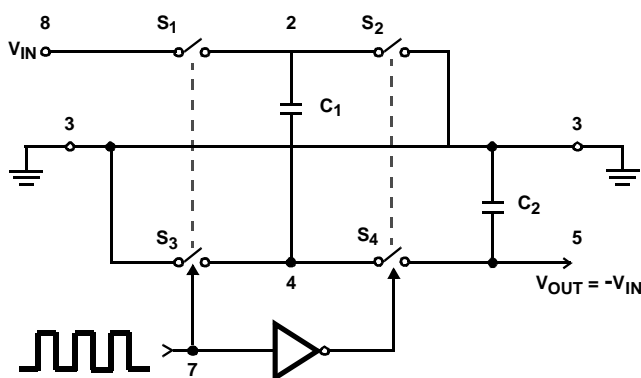
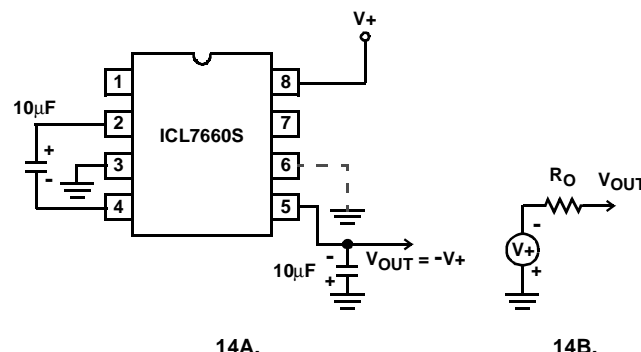
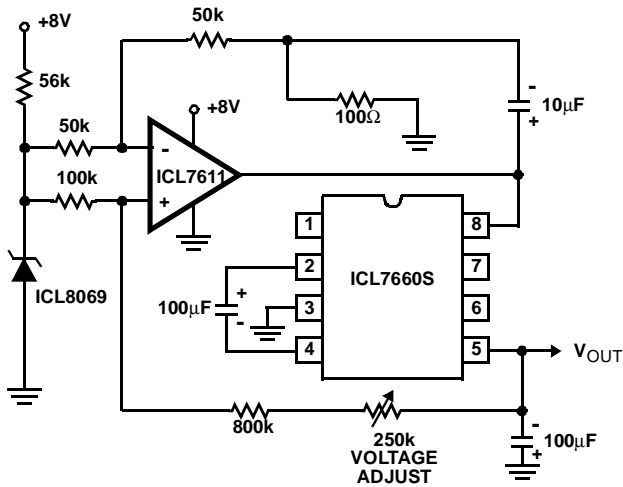
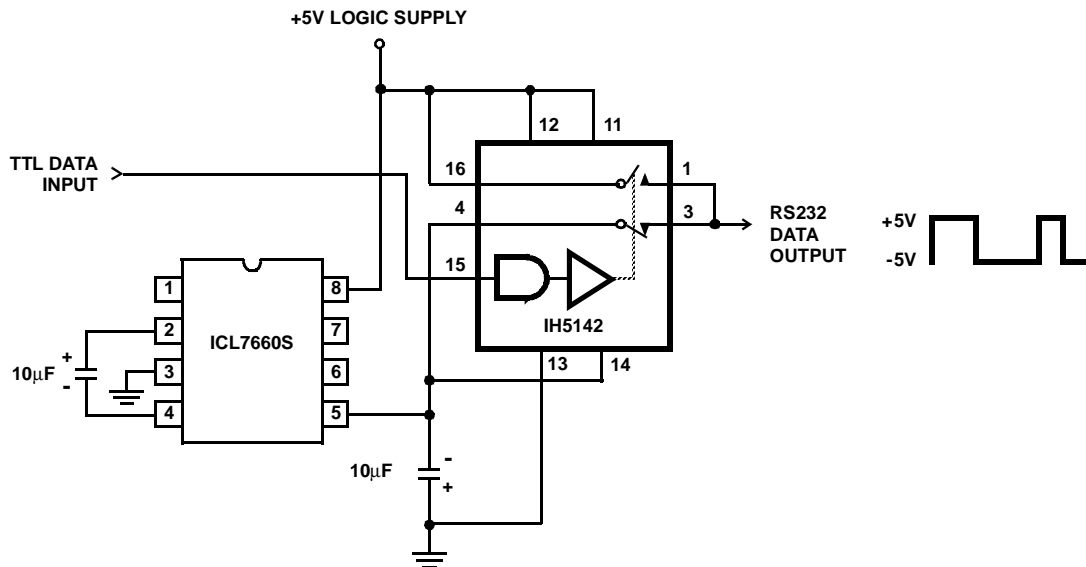

FIGURE 13. IDEALIZED NEGATIVE VOLTAGE CONVERTER
FIGURE 14. SIMPLE NEGATIVE CONVERTER AND ITS OUTPUT EQUIVALENT
FIGURE 20. REGULATING THE OUTPUT VOLTAGE
FIGURE 21. RS232 LEVELS FROM A SINGLE 5V SUPPLY
The ICL7660S contains all the necessary circuitry to complete a negative voltage converter, with the exception of 2 external capacitors which may be inexpensive 10 μ F polarized electrolytic types. The mode of operation of the device may be best understood by considering Figure 13, which shows an idealized negative voltage converter.
In the ICL7660S, the 4 switches of Figure 13 are MOS power switches; S_1 is a P-Channel devices and S_2 , S_3 and S_4 are N-Channel devices. The main difficulty with this approach is that in integrating the switches, the substrates of
where V_1 and V_2 are the voltages on C_1 during the pump and transfer cycles. If the impedances of C_1 and C_2 are relatively high at the pump frequency (refer to Figure 13) compared to the value of R_L , there will be substantial difference in the voltages V_1 and V_2 . Therefore it is not only desirable to make C_2 as large as possible to eliminate output voltage ripple, but also to employ a correspondingly large value for C_1 in order to achieve maximum efficiency of operation.
The majority of applications will undoubtedly utilize the ICL7660S for generation of negative supply voltages. Figure 14 shows typical connections to provide a negative supply where a positive supply of +1.5V to +12V is available. Keep in mind that pin 6 (LV) is tied to the supply negative (GND) for supply voltage below 3.5V.
The output characteristics of the circuit in Figure 14 can be approximated by an ideal voltage source in series with a resistance as shown in Figure 14B. The voltage source has a value of $-(V^+)$. The output impedance (R_O) is a function of the ON resistance of the internal MOS switches (shown in Figure 13), the switching frequency, the value of C_1 and C_2 , and the ESR (equivalent series resistance) of C_1 and C_2 . A good first order approximation for R_O is:
The ICL7660S may be employed to achieve positive voltage doubling using the circuit shown in Figure 20. In this application, the pump inverter switches of the ICL7660S are used to charge C_1 to a voltage level of $V_+ - V_F$ (where V_+ is the supply voltage and V_F is the forward voltage on C_1 plus the supply voltage (V_+) is applied through diode D_2 to capacitor C_2 . The voltage thus created on C_2 becomes $(2V_+) - (2V_F)$ or twice the supply voltage minus the combined forward voltage drops of diodes D_1 and D_2 .
Figure 21 combines the functions shown in Figure 14 and Figure 20 to provide negative voltage conversion and positive voltage doubling simultaneously. This approach would be, for example, suitable for generating +9V and -5V from an existing +5V supply. In this instance capacitors C_1 and C_3 perform the pump and reservoir functions respectively for the generation of the negative voltage, while capacitors C_2 and C_4 are pump and reservoir respectively for the doubled positive voltage. There is a penalty in this configuration which combines both functions, however, in that the source impedances of the generated supplies will be somewhat higher due to the finite impedance of the common charge pump driver at pin 2 of the device.